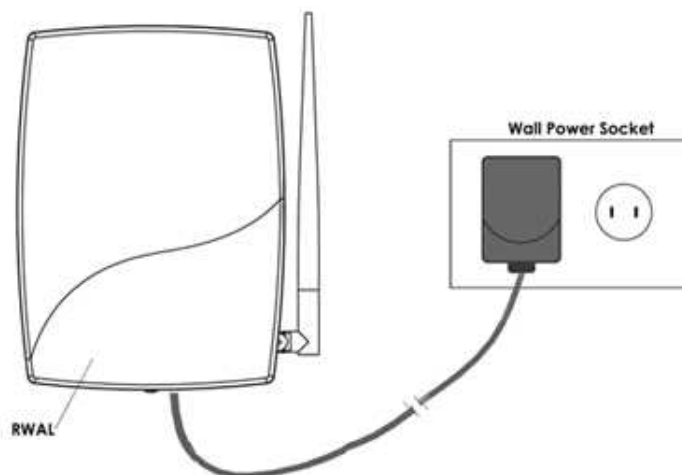

Figure 6. Connecting the RWAL to the Wall Outlet
4. Connect the RWAL to the nearest power outlet using the power adapter, as shown in the Figure 6.